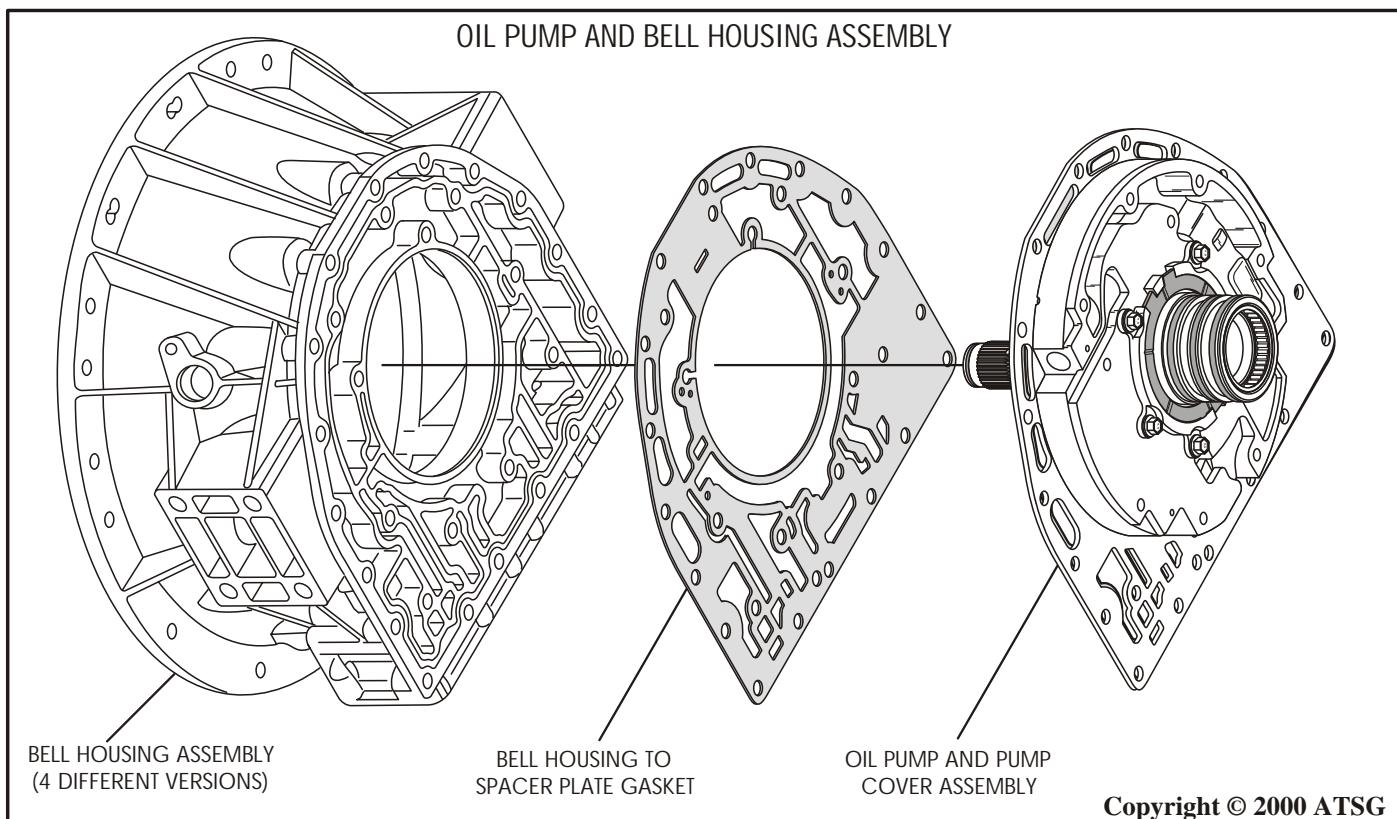

Figure 94
26. Assemble the completed oil pump and cover assembly to the bell housing (See Figure 94). **Note: There are currently four different bell housings available. Refer to Figures 98 & 99 for the various models.**